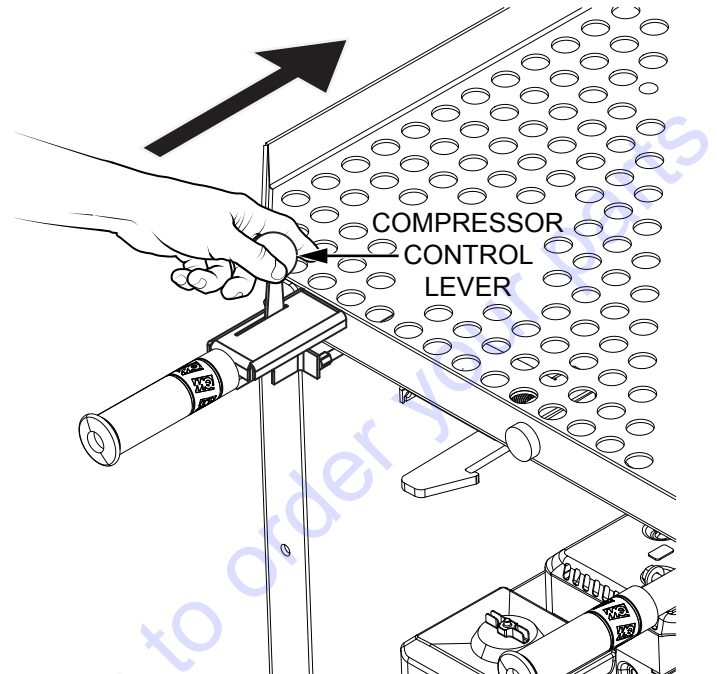

Figure 38. Engage Compressor
5. Push the compressor control lever forward until it latches in the forward position (Figure 38), and let the compressor run for 10–15 seconds. Any liquid remaining in the suction and return hoses will flow through the return tube back into the supply container.